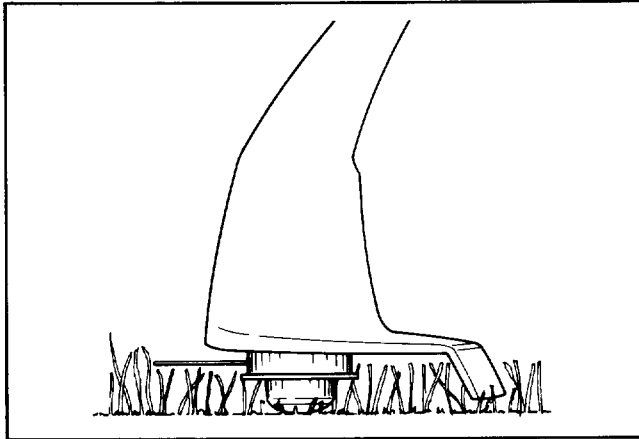

Figure 16
8. **Never drag the trimmer spool cap on the ground while trimming (Fig. 16).** This causes unnecessary battery drain and spool cap wear.